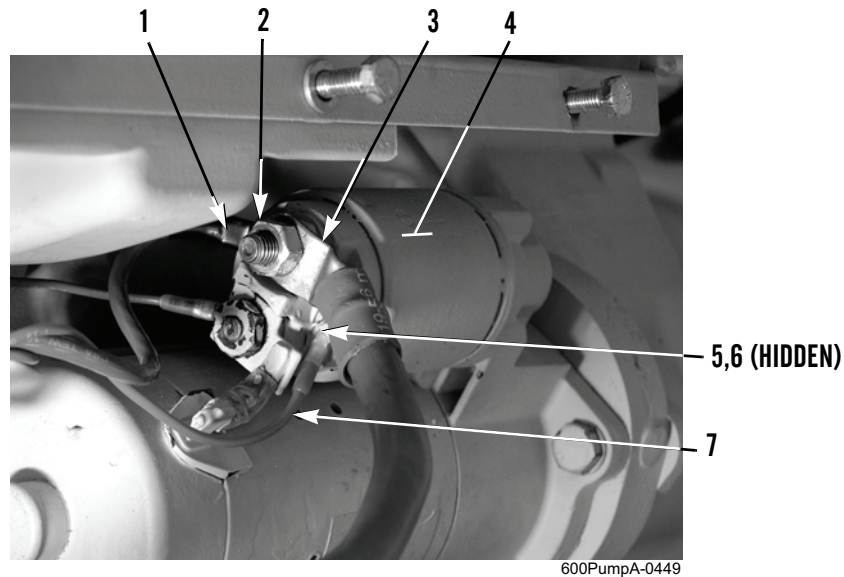

Figure 6. Starter Solenoid and Wires.
6. Install wire (Figure 6, Item 7), terminal lug (Figure 6, Item 6), and screw (Figure 6, Item 5) to starter solenoid (Figure 6, Item 4).
7. Install wire (Figure 6, Item 1), positive battery cable (Figure 6, Item 3), and nut (Figure 6, Item 2) to upper stud of starter solenoid (Figure 6, Item 4).